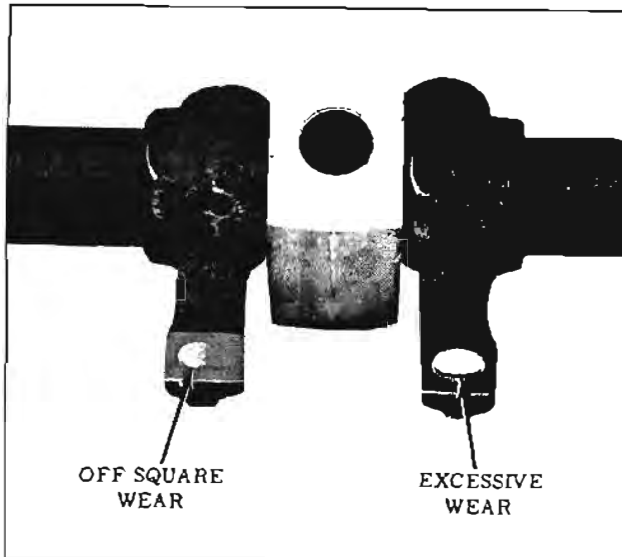

Fig. 8-116 Rocker Arm Wear
- b. Observe rocker arm pad for excessive wear or excessive off square. Replace as required. (Fig. 8-116)